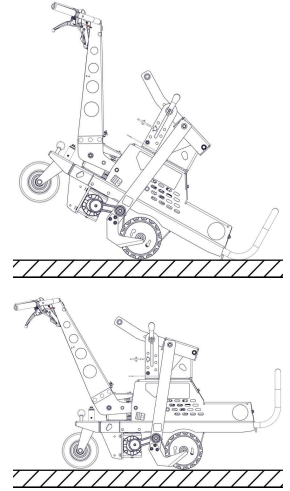

Fig. 9.
TIP: When using the machine for the first time, execute maneuvers on flat ground free of foreign objects to become more comfortable with machine operation. After switching on the engine, follow the instructions given in the previous paragraph. **Be mindful of the machine tipping forward (See Figure 9, on the following page).**
2. Holding both handles, fully engage the blade clutch lever on the operator's left hand side. Rocking back on the handles, allow the blade to cut into the sod to your chosen depth. Keep the blade clutch lever fully engaged at all times when cutting (see Fig. 9).